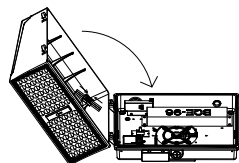

Figure 18
14. Close the fixture and secure it with the two (2) screws loosened in step 2. (see Fig. 18)